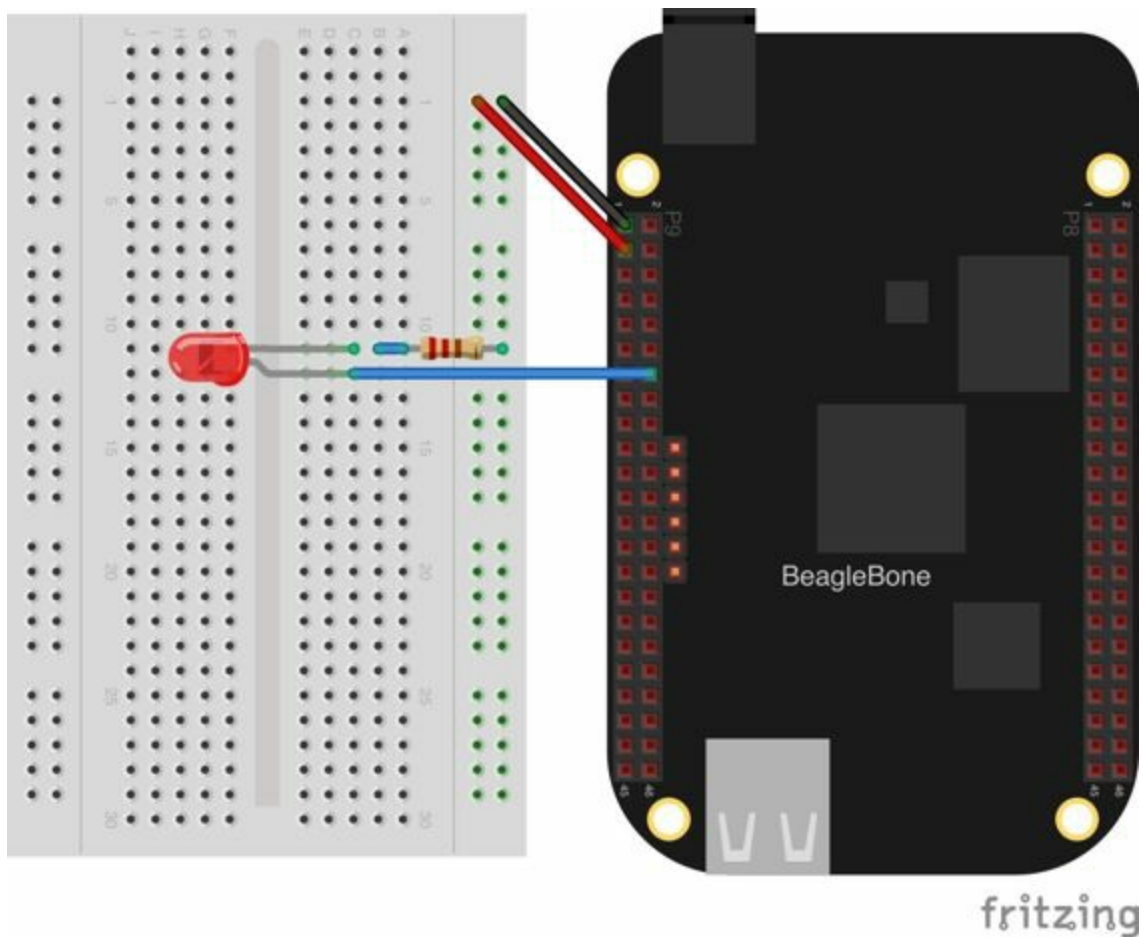

Figure 3-3. Diagram for using an external LED
**Figure 3-3** shows how you can wire the LED to pin 14 of the P9 header (P9\_14). Every circuit in this book (Recipe 1.5) assumes you have already wired the rightmost bus to ground (P9\_1) and the next bus to the left to the 3.3 V (P9\_3) pins on the header. Be sure to get the polarity right on the LED. The *short* lead always goes to ground.
BoneScript has an `analogWrite()` function that uses the Bone's pulse width modulation (PWM) hardware to produce an analog out signal. We'll use the same circuit as before (Figure 3-3) and declare the pin mode to be `ANALOG_OUTPUT`. Add the code in Example 3-3 to a file called *fadeLED.js* and then run it as before.